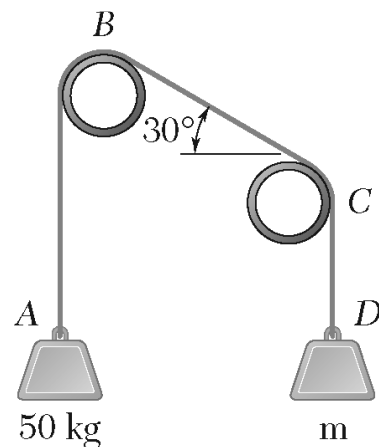

Fig. 4.
Q.4 A rope $ABCD$ is looped over two pipes as shown in Fig. 4. The coefficient of static friction is 0.25 for all contacts, determine (a) the smallest value of the mass m for which equilibrium is possible, (b) the corresponding tension in portion BC of the rope.
Q.4 A rope $ABCD$ is looped over two pipes as shown in Fig. 4. The coefficient of static friction is 0.25 for all contacts, determine